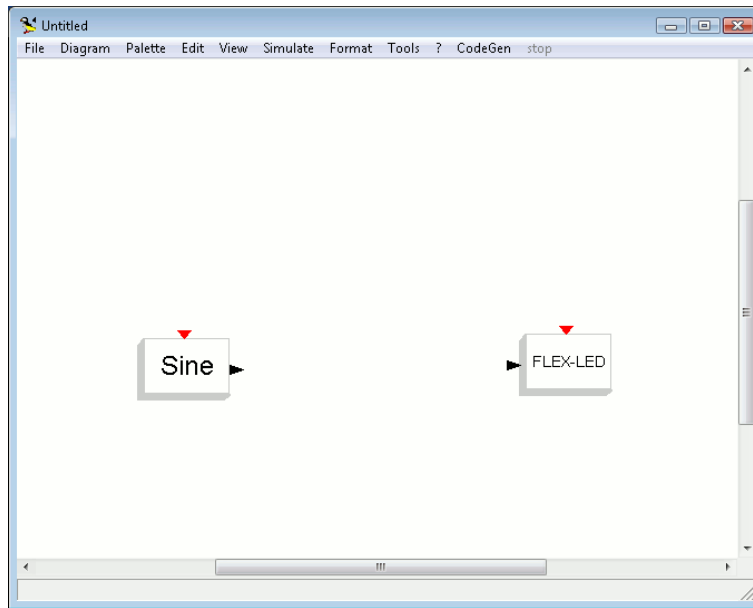

Figure 5.7: Place the `Sine` block to the left of the `LED` block.
8. Open the **MCHP16-Sources** palette, and repeat the same with the **Sine** block, placing it on the left of the LED block, as in Figure 5.7.